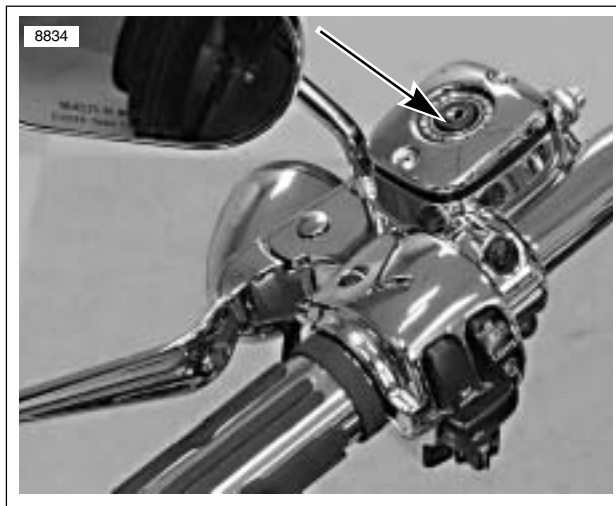

Figure 7-33. Clutch Master Cylinder Reservoir
The clutch is hydraulically actuated. See Figure 7-33. The clutch master cylinder fluid reservoir (1) is located on the left handlebar.